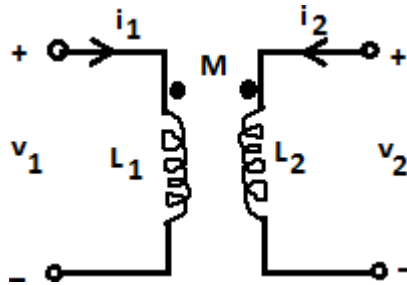

Figure: 1
b) In the circuit shown in figure 1, $L_1 = L_2 = 5 \mu\text{H}$ and $M = 1 \mu\text{H}$. Compute v_1 and v_2 , If $i_1 = 3 \cos 150t \text{ mA}$, $i_2 = 4 \sin 150t \text{ mA}$ [7+8]